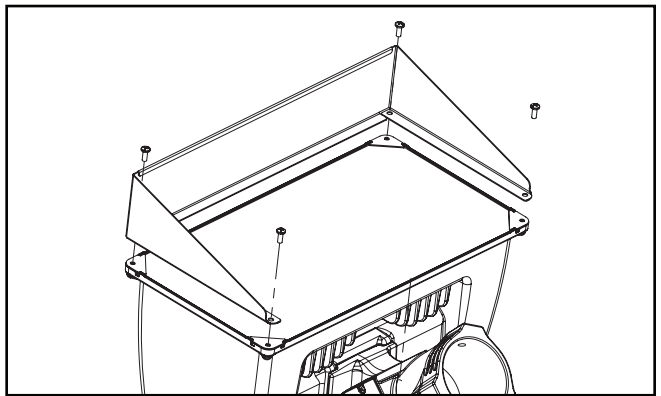

Figure 8.
### Visor (Figure 8.)
1. Loosen and remove the existing (4) 10-24 Philips head screws on the face of the fixture and retain for future reference.
2. Align visor on top of lens clips matching the 4 existing holes. (Figure 8.)
3. Retighten (4) 10-24 Philips head screws from step 2 to the face of the fixture.